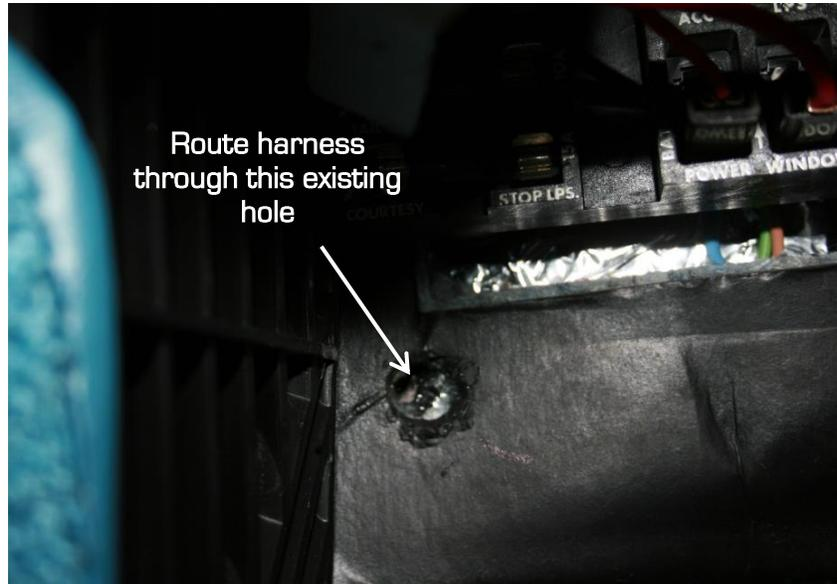

Figure 5
8. Remove the left lower firewall insulation retaining plug from the firewall. It is located inside the vehicle just below the bottom left corner of the fuse block (the carpet may need to be pulled back slightly to gain access). See Figures 5 & 6. The new headlight harness will be routed through this existing hole.